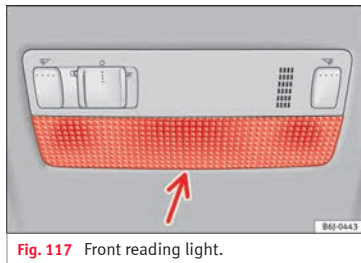

Fig. 117 Front reading light.
- Insert a fine screwdriver between the casing and the glass »» **Fig. 117.**